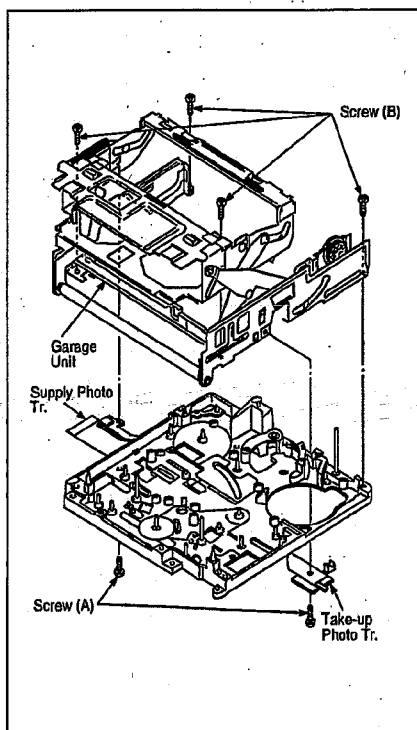

Fig. M2
| (Manual Eject)                    | Fig. M2  | Unscrew 2 screws (A) and remove Supply and Take-up Photo Transistors from Garage Unit.Unscrew 4 screws (B) and remove the Garage Unit.   |